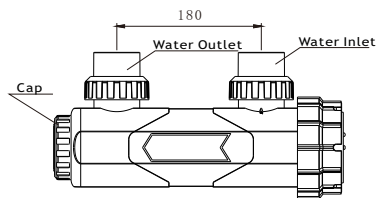

Figure 1
- \* Two optional outlets make installation more convenient. (see figure 1,2)